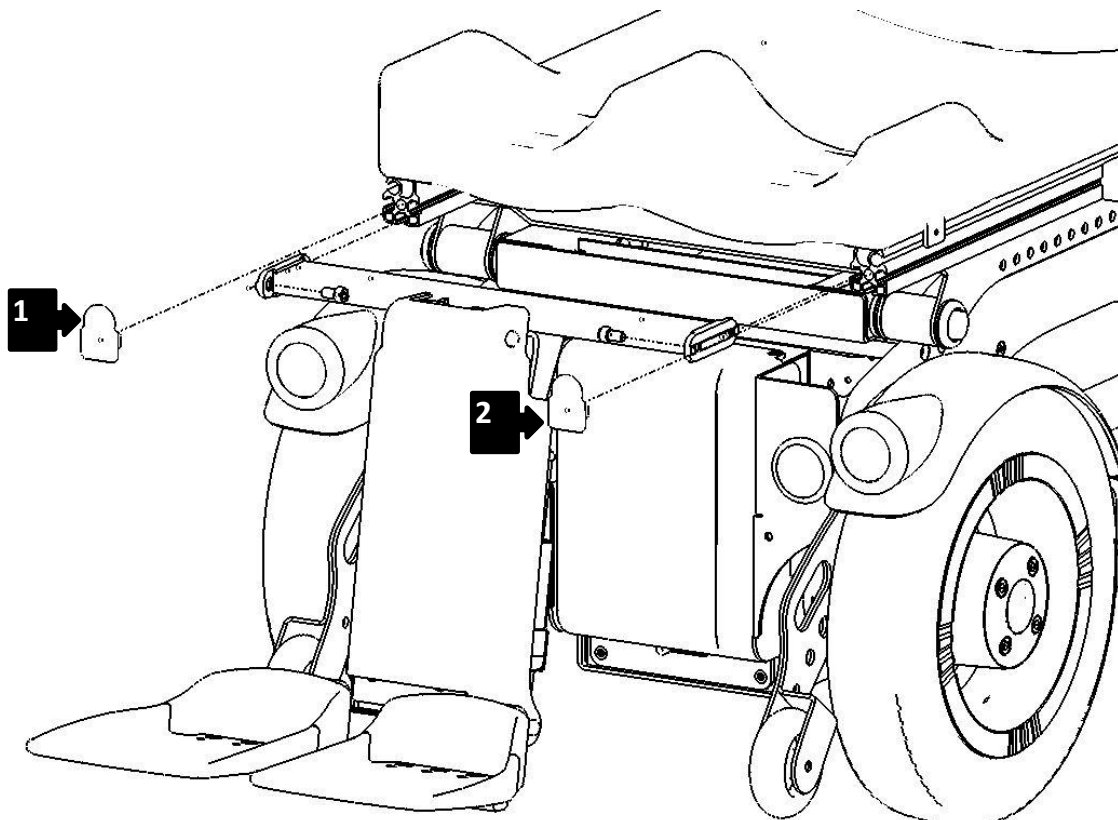

Figure 81
Remove the seat cushion. Seeing Figure 81 remove the caps (1) and (2) and unscrew the 4 screws of the legrest beam.